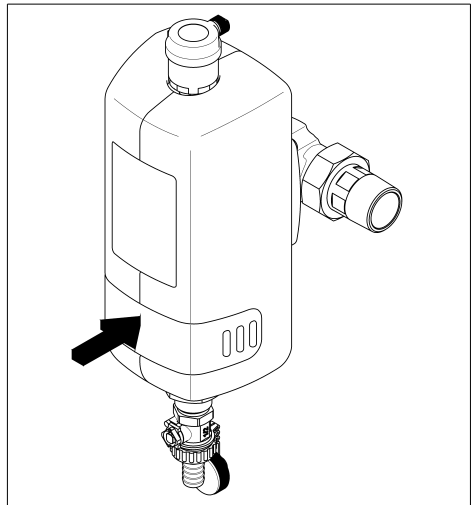

Fig. 9: Pushing in magnet holder
- Push the magnet holder completely back into the housing (see fig. 9).